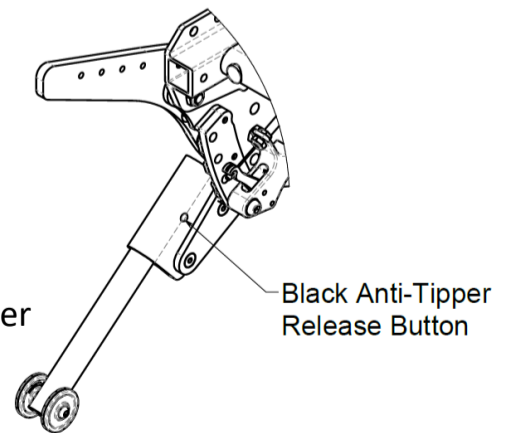

Figure 16.34: Reverse Bentley Anti-tipper positioning
1. Press and hold the release button on the anti-tipper tube. (See Figure 16.34)